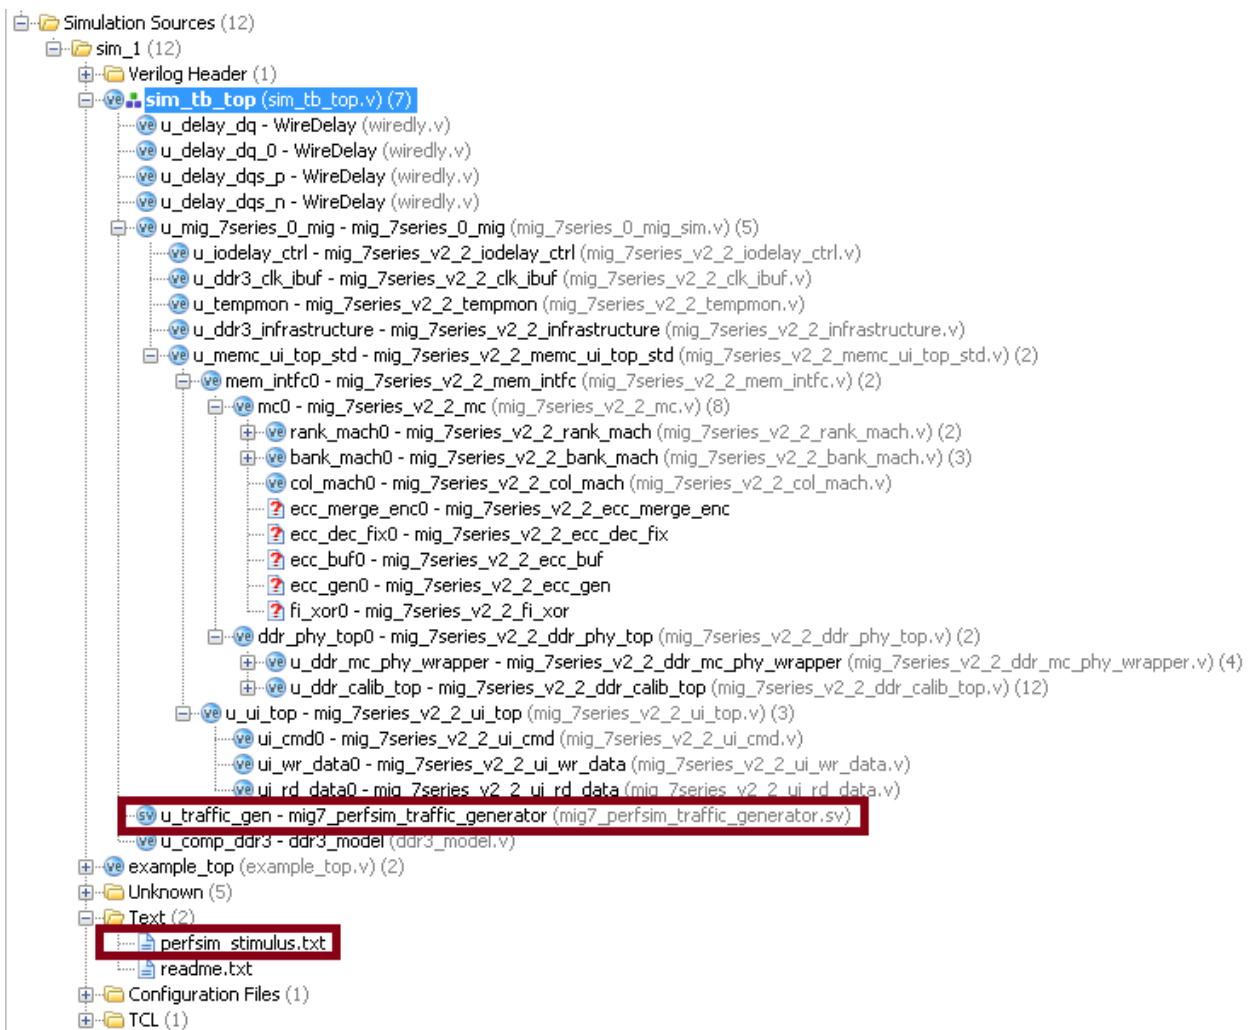

Figure 5: Simulation Hierarchy
11. Once the RTL changes are done and all of the required files are added to your Simulation Sources, Hierarchy should be similar to Figure 5.